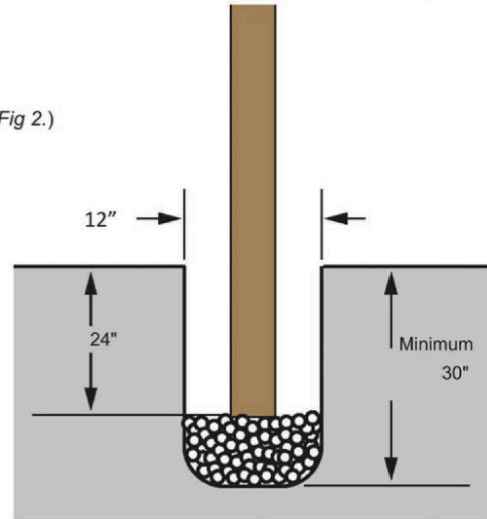

Fig 2. Setting Posts
2. Dig or auger post holes. The 5" x 5" Vinyl Posts require a **12" DIAMETER HOLE**, and must be at least **30" BELOW GRADE**. (See Fig 2.)